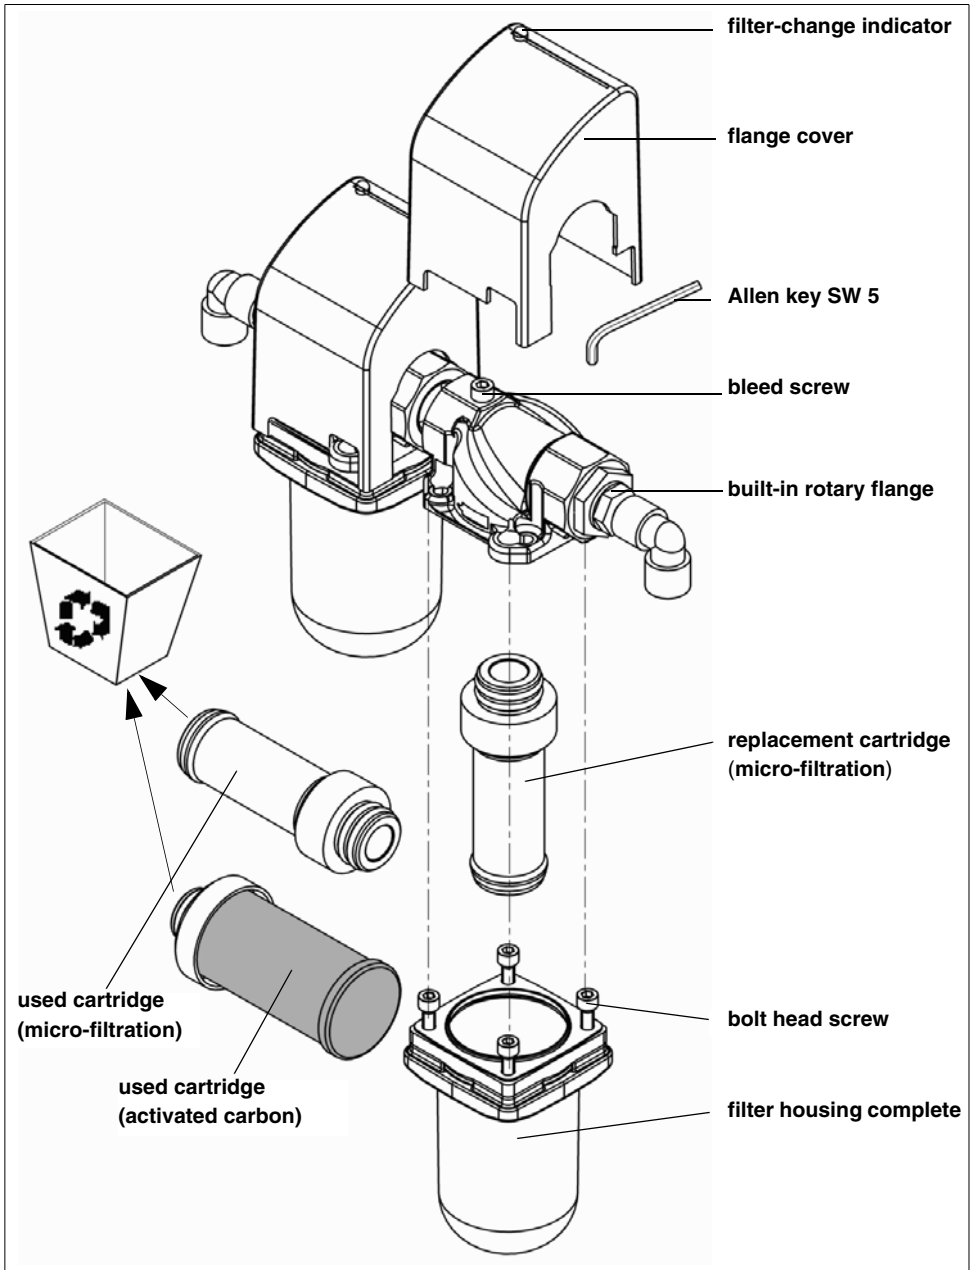

Fig. 11: Replacing the cartridges
- 4 Remove the flange cover(s) upward (see fig. 11).